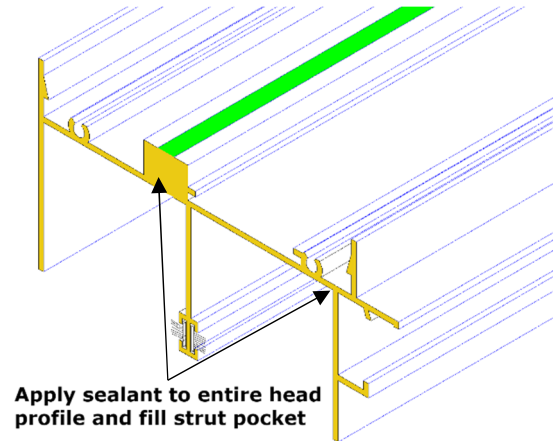

Figure H2
- A. Apply sealant to each end of the frame head, and coat thermal break with sealant as shown in Figure H2.